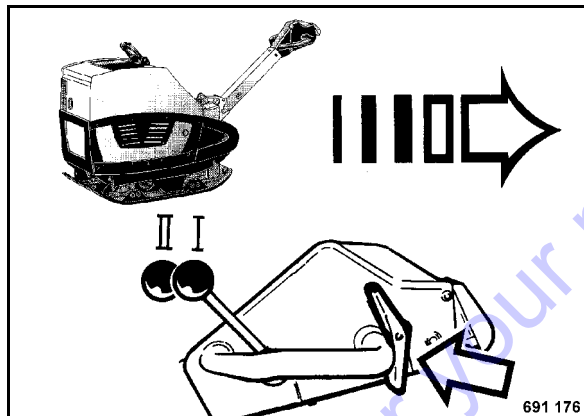

Fig. 34
- Press the upper part of the travel lever (tip switch) (Fig. 34), until the vibratory plate has reached the desired reverse travel speed.